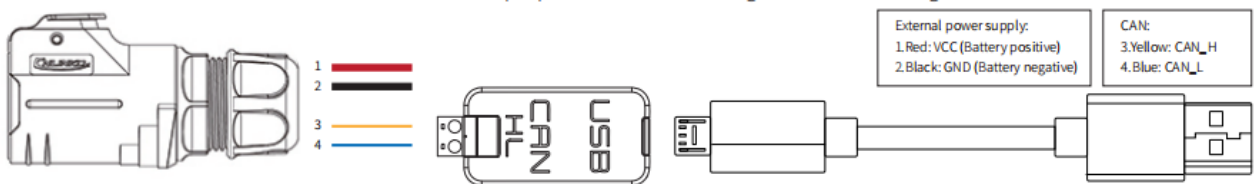

Figure 3.4 CAN line connection diagram
- Connect CAN\_TO\_USB to the USB port of the laptop. The connection diagram is shown in Figure 3.4.